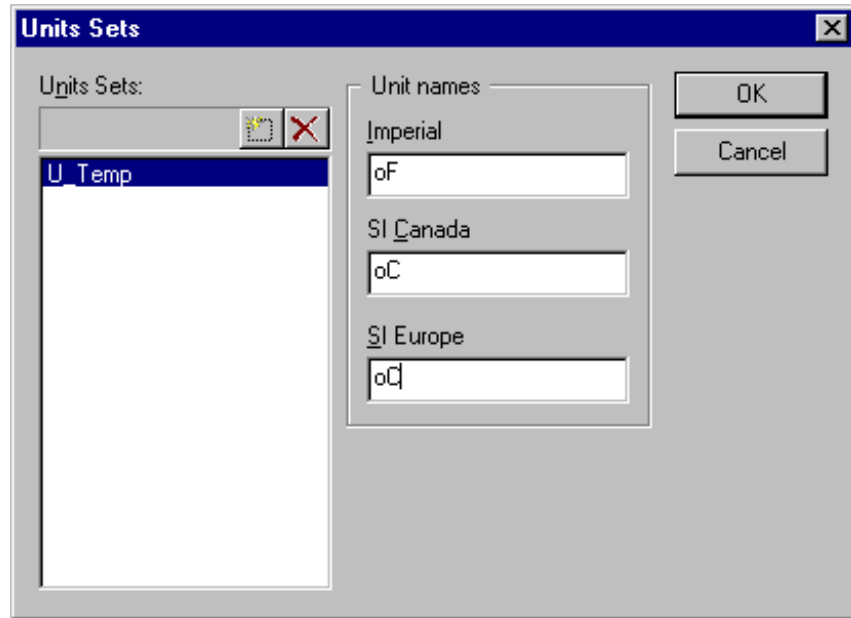

Figure 7-6: Units Set Added to Units Sets Screen
4. In the Unit Names column, type in the units you want displayed for each of the three possible unit attributes. See Figure 7-6 for an example of a temperature units set added to the Units Sets screen.